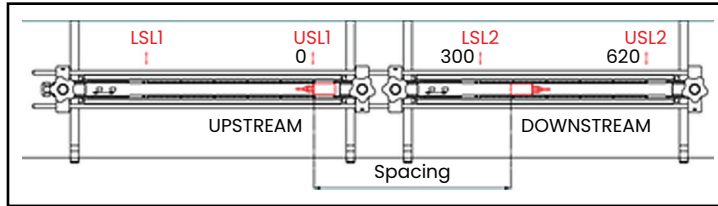
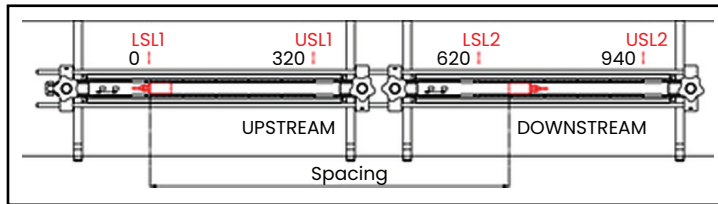

Figure 17: Transducer spacing of 320 to 620 mm with two fixtures
Figure 18: Transducer spacing of 620 to 940 mm with two fixtures
5. See Figure 17 and Figure 18 below for examples of a completed installation in the following situations: